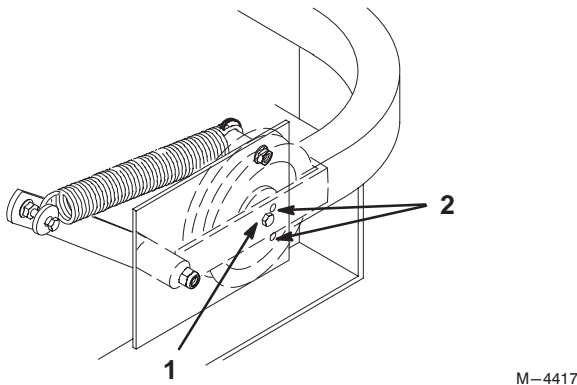

Figure 56
6. Check belt tension. The center bolt of spring loaded idler must be between the two alignment holes in left support plate (Fig. 56).
Check position of center bolt in a High Height of Cut. The center bolt must be at or above the lower adjustment hole (Fig. 56).
8. Check belt tension again. The center bolt of spring loaded idler must be between the two alignment holes in left support plate (Fig. 56). Adjust, if necessary, and tighten all hardware securely.